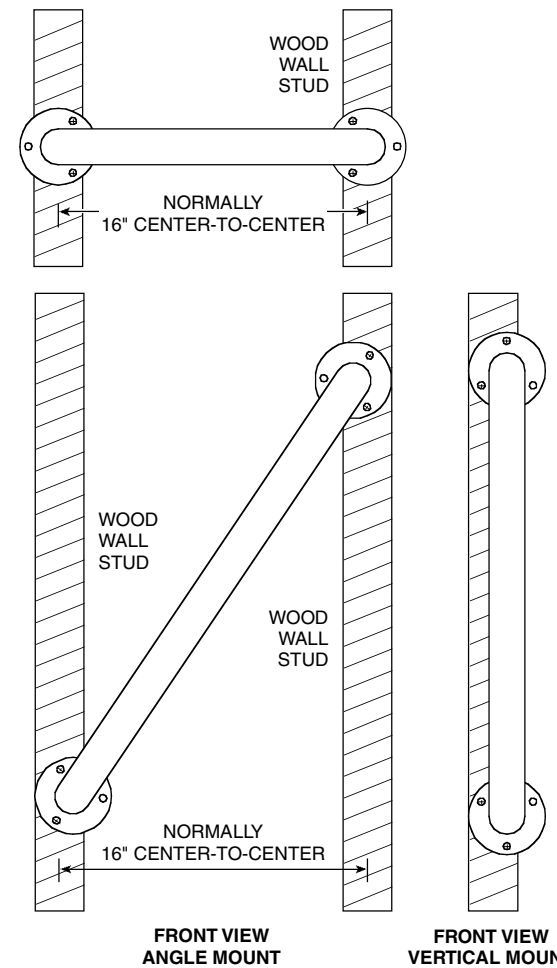

Figure 2
**For proper installation, both ends of Grab Bar MUST be positioned over a wall stud. For solid support, at least two (2) of the three (3) screws on the end of the Grab Bar MUST go through the wallboard or tile and be tightly secured into the wall stud. Given standard stud sizes, only two (2) of the three (3) screws may screw into the wall stud.**
**Grab Bar may be installed vertically, horizontally or at an angle, so long as at least two (2) of the three (3) mounting screws on both ends of the Grab Bar are secured into a wall stud (see Figure 2).** Locate the wall studs behind the wall before beginning installation (a stud finder can be obtained from a hardware store).